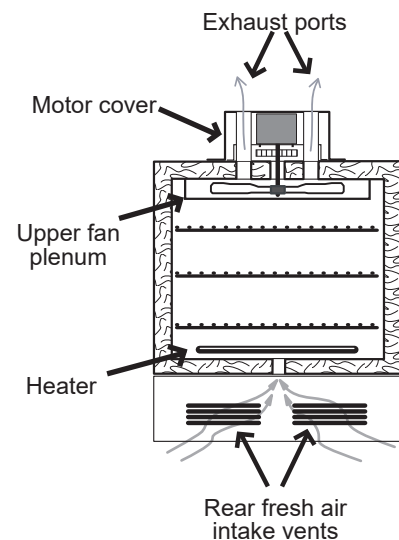

FIG. 1
-  Position the unit in its ultimate operating location. Maintain a minimum of 4" of airspace around the unit and a minimum of 18" above the unit's motor cover. The portholes at the top of the unit will expel a small amount of warm air through forced convection. (FIG.1)